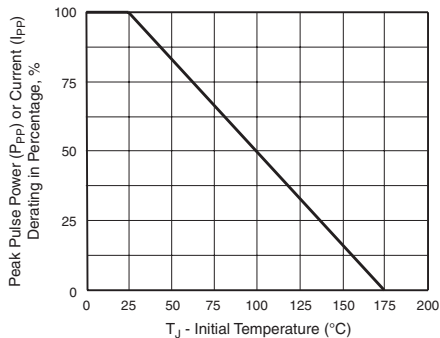
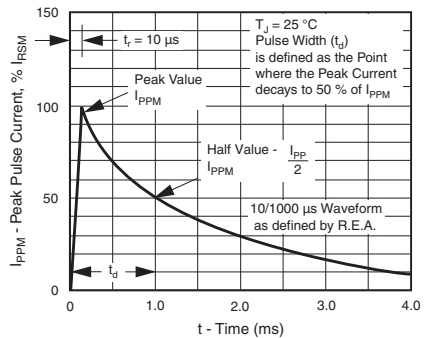

Figure 2. Pulse Power or Current vs. Initial Junction Temperature
Figure 3. Pulse Waveform
(1) Pulse test: tp ≤ 50 ms
(2) Surge current waveform per Fig. 3 and derate per Fig. 2
(3) All terms and symbols are consistent with ANSI/IEEE CA62.35
(4) For bi-directional types with VR 10 V and less the ID limit is doubled